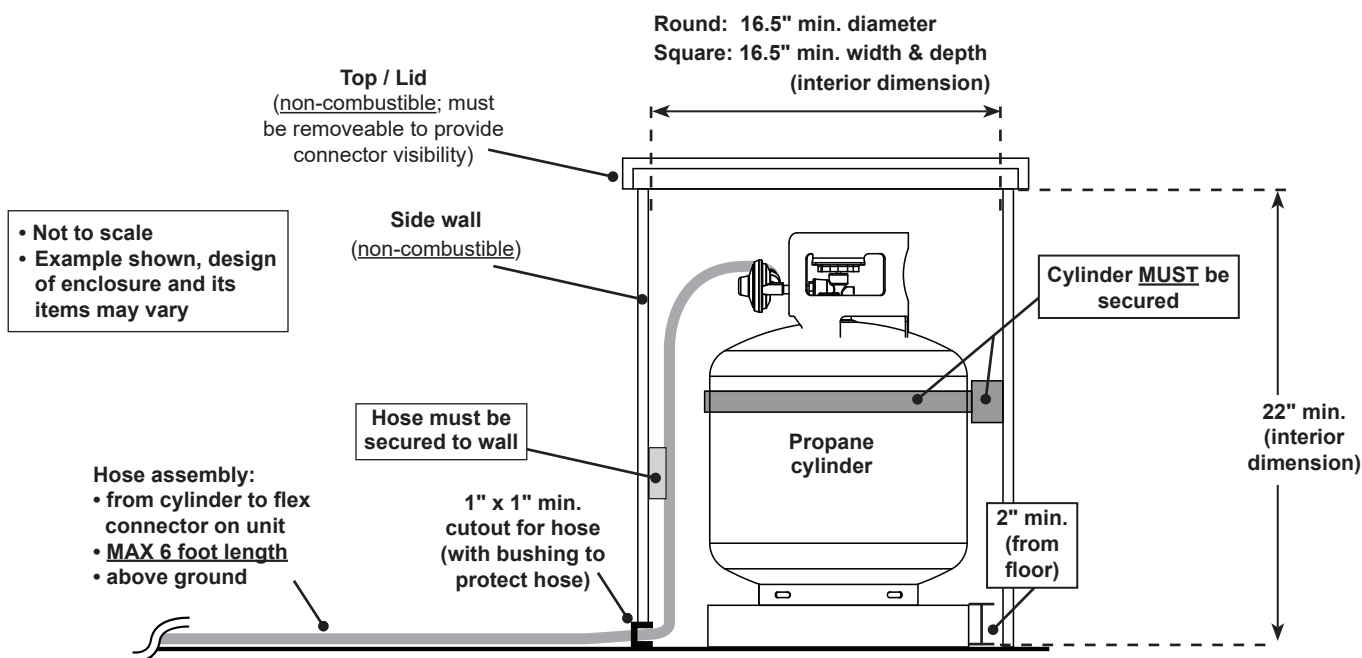

Fig. 7-1 Propane cylinder enclosure specifications (side view)
The enclosure can be constructed according to your individual preference, while following all guidelines found in this manual. **The enclosure MUST (see Fig. 7-1):**
- have the minimum dimensions specified in Fig. 7-1
- meet all requirements found in Fig. 7-1 and the following sections